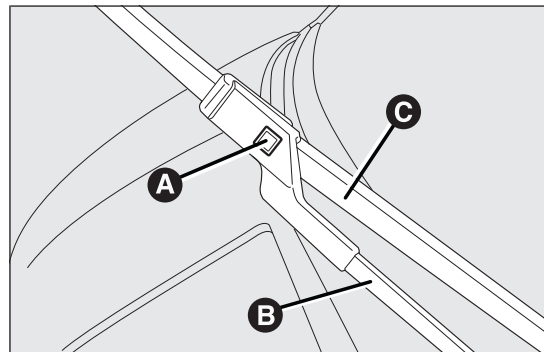

fig. 142
- ☐ raise the windscreen wiper arm A fig. 142 and position the blade so that it forms an angle of 90° with the arm;
- ☐ press the button A and extract the blade C fig. 142 from the arm B fig. 142;